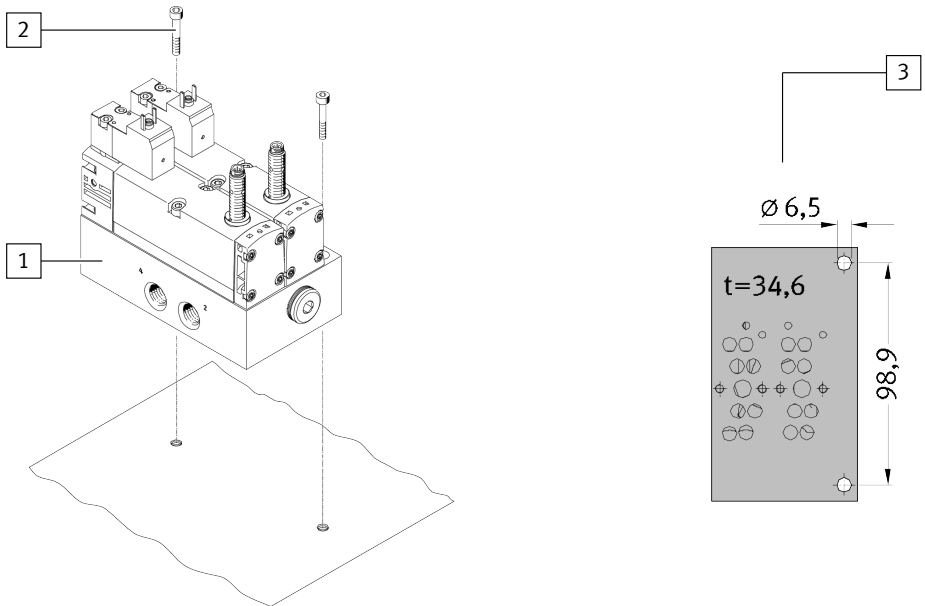

Fig. 6: Attachment/mounting of the control block, individual connection variant
2. Fasten the control block using the intended drilled holes → Fig. 6. Refer to the hole pattern for the required dimensions.